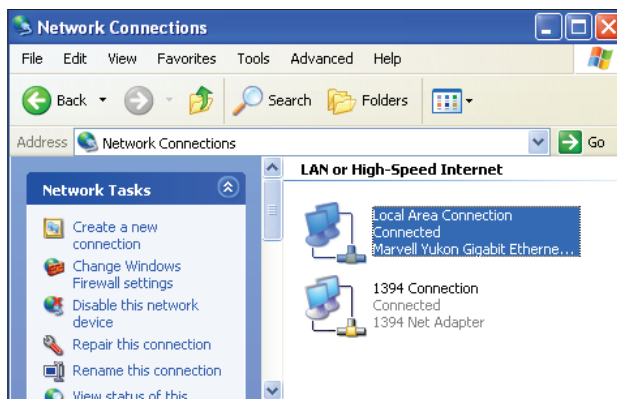

Figure 4: Network Connections Window
- 2.) Double-click on the **Network Connections** icon. The *Network Connections Window* will appear (**Figure 4**).